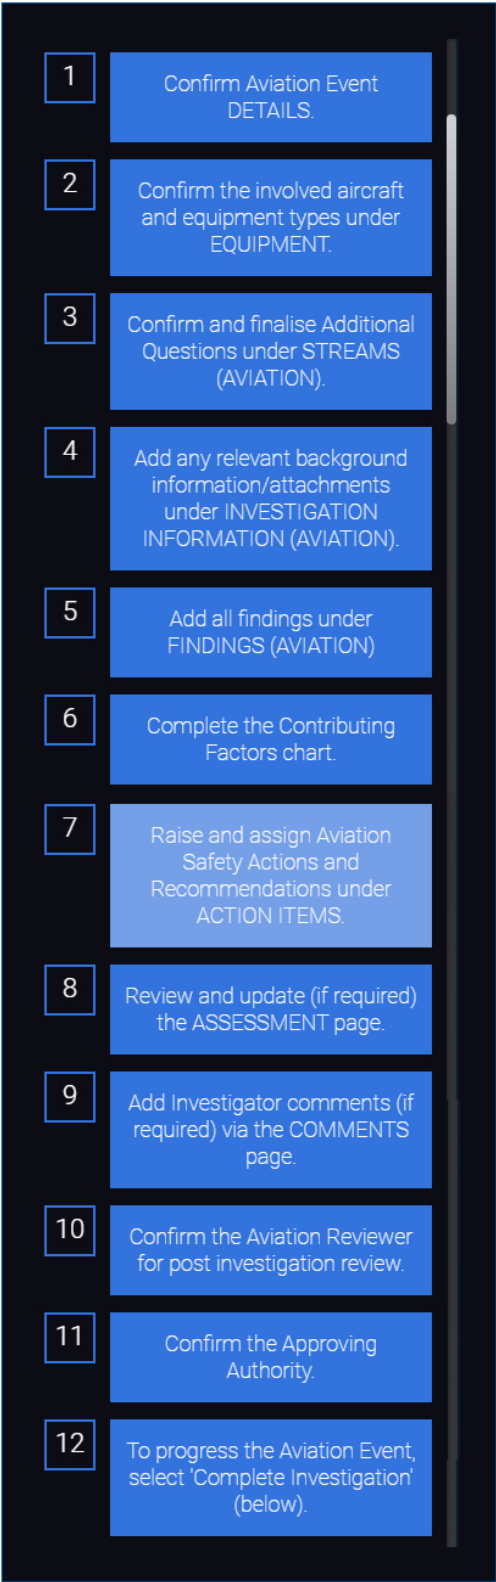

Figure 40: Investigator Checklist
Step 6 is where the outputs from Steps 1 through to 5 are entered into Sentinel. **Figure 39** illustrates how the investigation steps are recorded in the Sentinel Investigator checklist (**Figure 40**).
The investigator will be presented with a checklist which lists the tasks to be completed to progress the report to the next stage of the workflow. Each checklist item directs the investigator to the corresponding area of the Sentinel event, refer **Figure 40**.